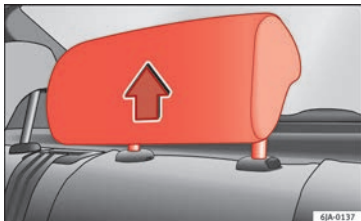

Fig. 5 Head restraints in the correct position.
- Three positions for **use** » Fig. 5. In these positions, the head restraints are used normally, and along with the rear seat belts, protect passengers in the rear seats.